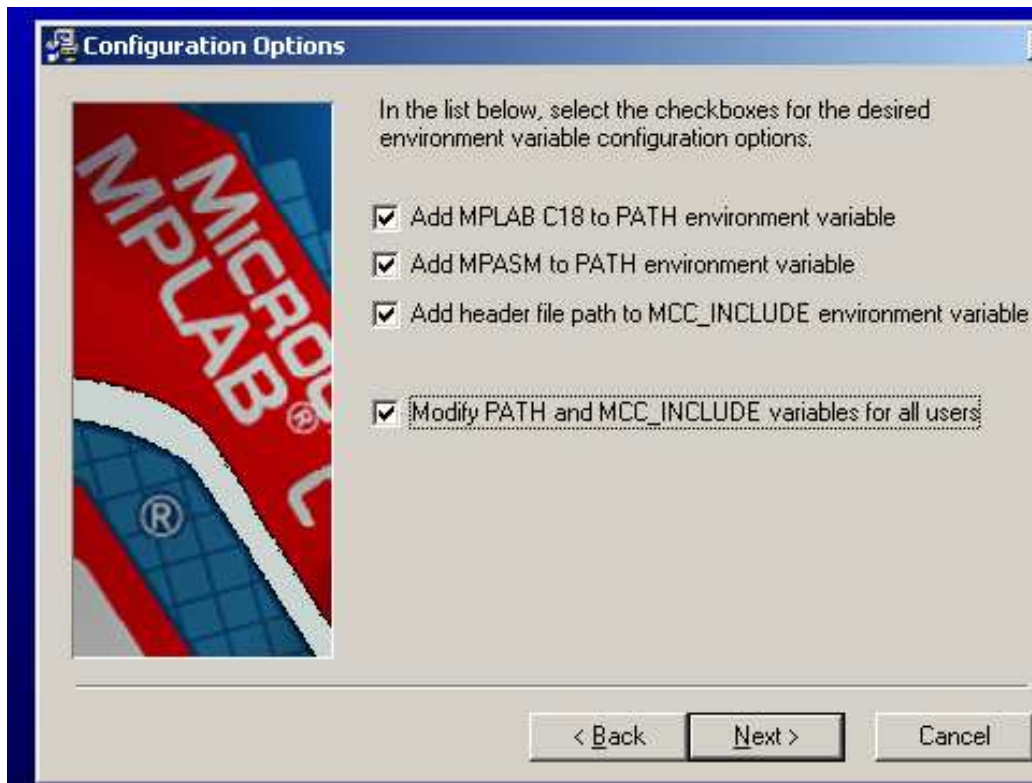

Figure 4: Installation of C18 Compiler, settings for path and env. variables
- 4) Select all the inclusion options for the environment variables and path as in Figure 4.